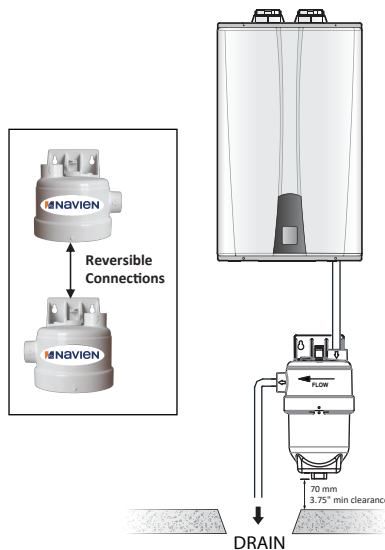

Figure 1: Standard Installation Example
- Open the capsule and ensure media is level inside. If necessary, the orientation of the neutralizer can be reversed by removing the wall bracket and moving it to the other side of the lid (see Figure 1 on next page).
- Mount as per the installation diagram below (see Figure 1). Check that the neutralizer is upright in the proper position as shown in the above diagram. The neutralizer should be installed after the trap. Ensure that the condensate will flow freely from the appliance drain into the neutralizer then to an approved drain by applying sufficient slope to the drain pipe.